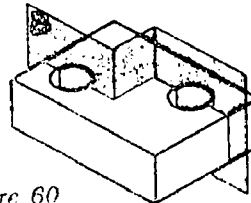

Figure 60
9. The sectional view produced according to plane B in Figure 60 would be: